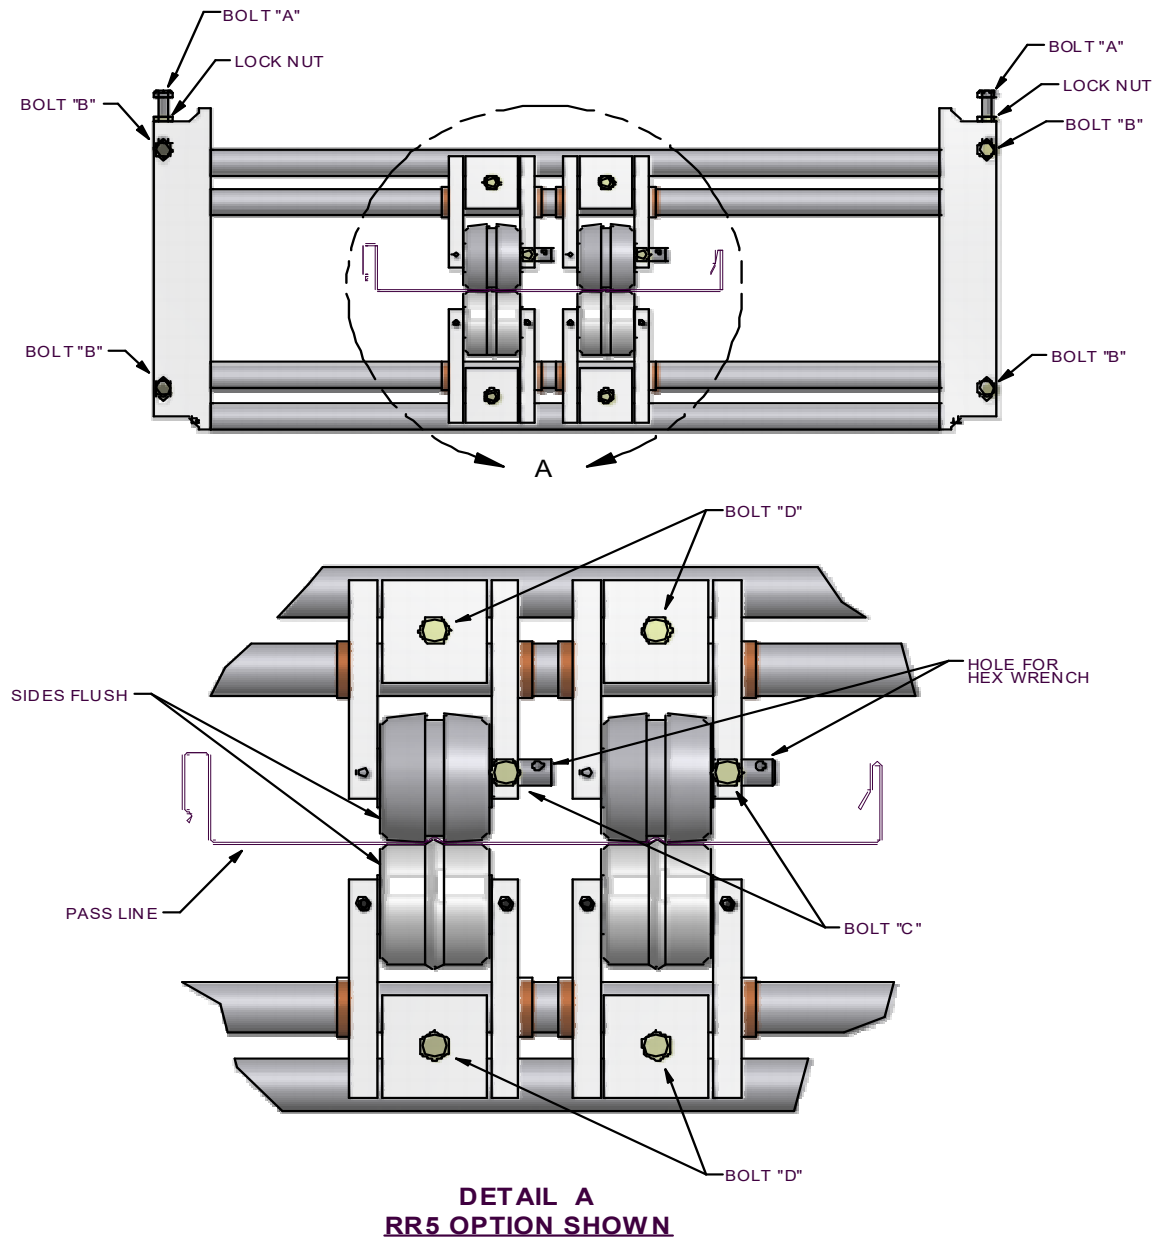

Figure 58: Bead Roller Width Change
9. Loosen the slide lock bolts on the top and bottom bead assemblies (Figure 58 Bolt “D”) and slide each bottom and top roll assembly left or right to center them on the 4” and 8” marks on the panel.
12. To set or change the gap between top and bottom beads, loosen the "C" bolt on both top rollers (Figure 58).